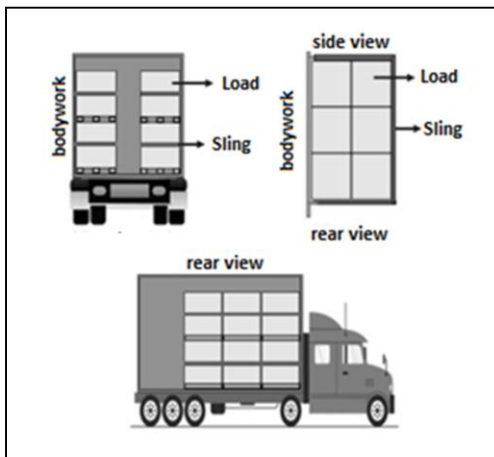

Figure 23: Correct way of loading and lashing crated transformers
- Once the transformers are located and aligned on the platform, secure them with slings to the truck chassis (see, for help, figure 23 of number 7.12).